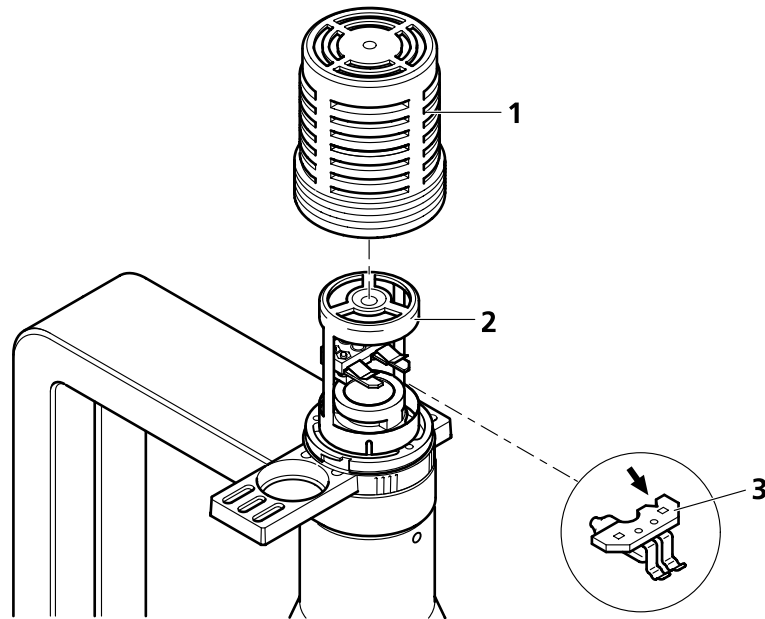

Fig. 1-18 Replacing the halogen lamp
Hot surfaces on lamp housing (Fig. 1-18/1), heat sink (Fig. 1-18/2) and halogen lamp:
- Unlock the lamp housing (Fig. 1-18/1) by slightly turning it anticlockwise.
- Remove the halogen lamp with alignment base (Fig. 1-18/3).